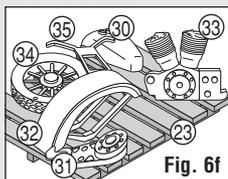

Fig. 6f
- Glue the Gas Tank ㉔, Tire ㉕, Engine ㉖, Handlebars ㉗, Clutch Cover ㉘, and Fender ㉙ onto Pallet ㉚ (Fig. 6f).